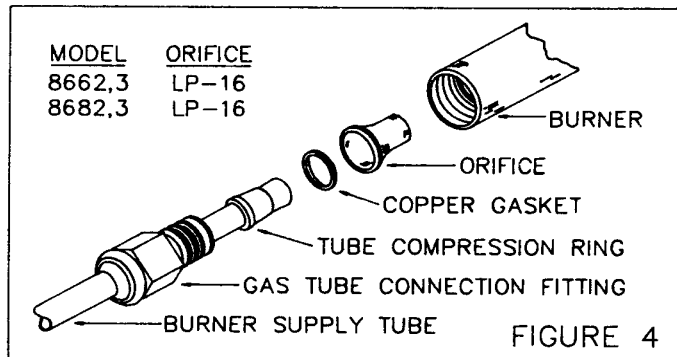
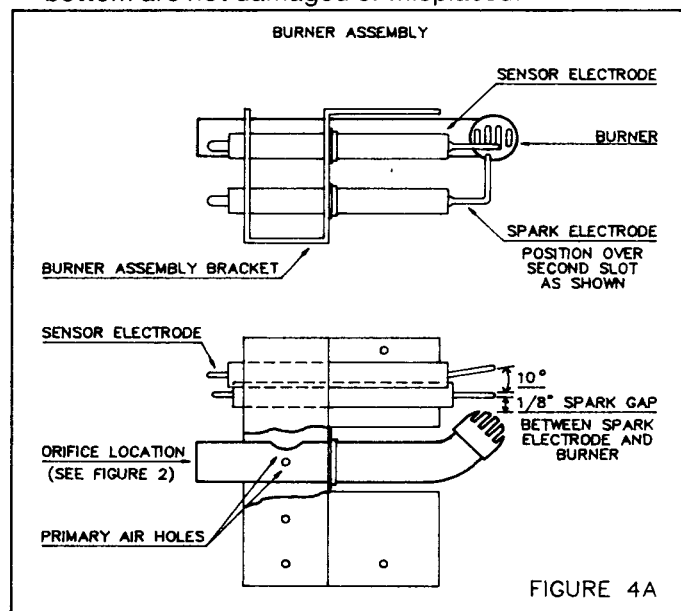

FIGURE 4
FIGURE 4A
- 2) Study the exploded view of the burner orifice assembly. (See Figure 4)
- 6) When it has been determined that the orifice is clean, reinstall it along with the burner gas supply tube, making sure that all parts are reassembled as shown in Figure 4. The fitting should be turned by hand several times to insure against cross threading. Before replacing cover on burner box, check the electrode positions as shown in Figure 4A. Adjust spark gap if necessary. After re-igniting the burner, check for leaks by applying a soap solution to the tube fitting. If no leaks are present, replace the burner cover.